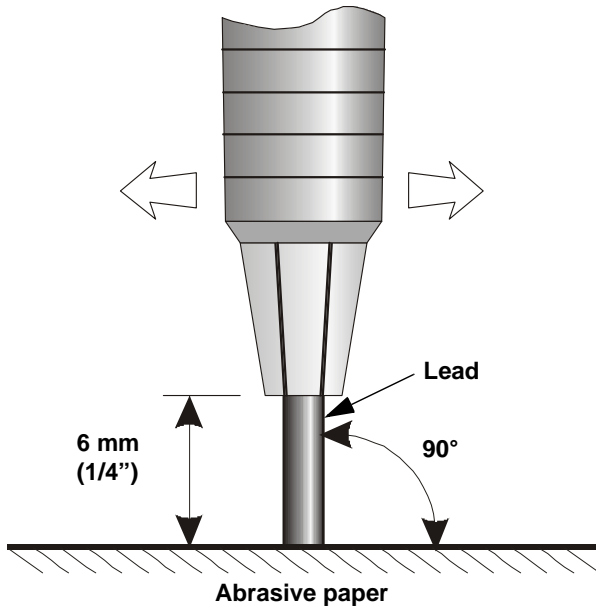

Figure 2. Prepare the lead at 90° to the abrasive p aper
3. Hold the lead-holder at an angle of 90° to the abrasive paper and abrade the lead by moving the lead-holder back and forth until preparation is completed (Figure 2).